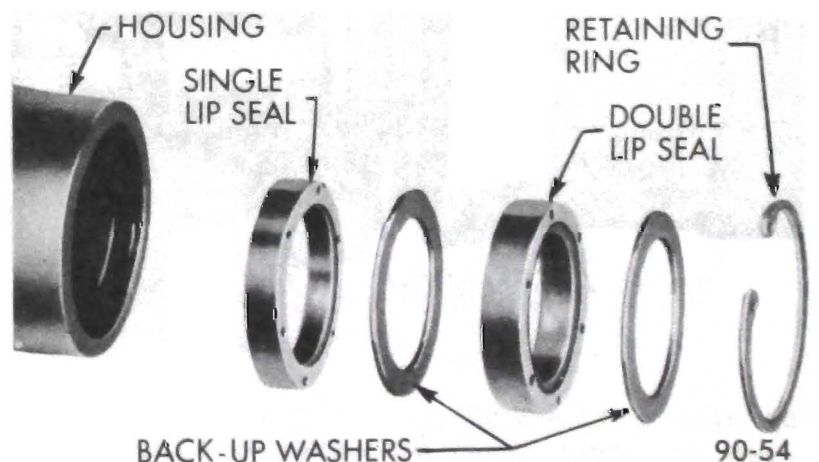

Figure 90-54 Pitman Shaft Seals
2. Lubricate new pitman shaft seals with power steering oil. Install the inner, single lip seal in bore first, then a back-up washer. See Figure 90-54. Using